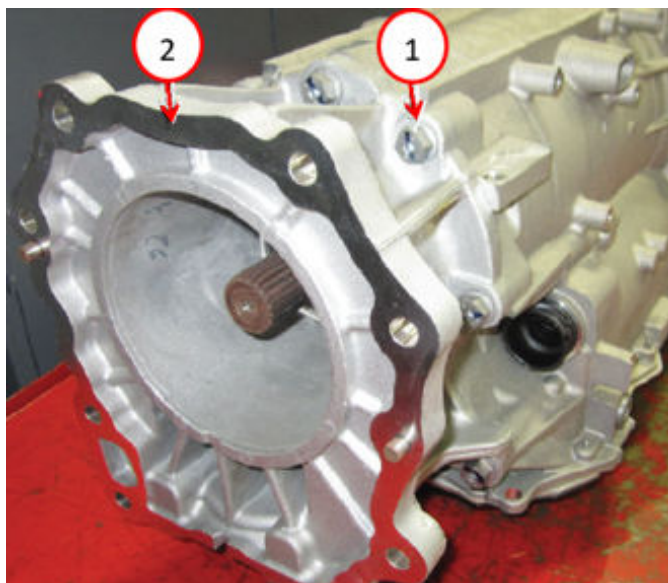

Fig. 2
5. If equipped with 4WD, remove the transmission housing extension bolts and remove the extension housing Fig. 2.